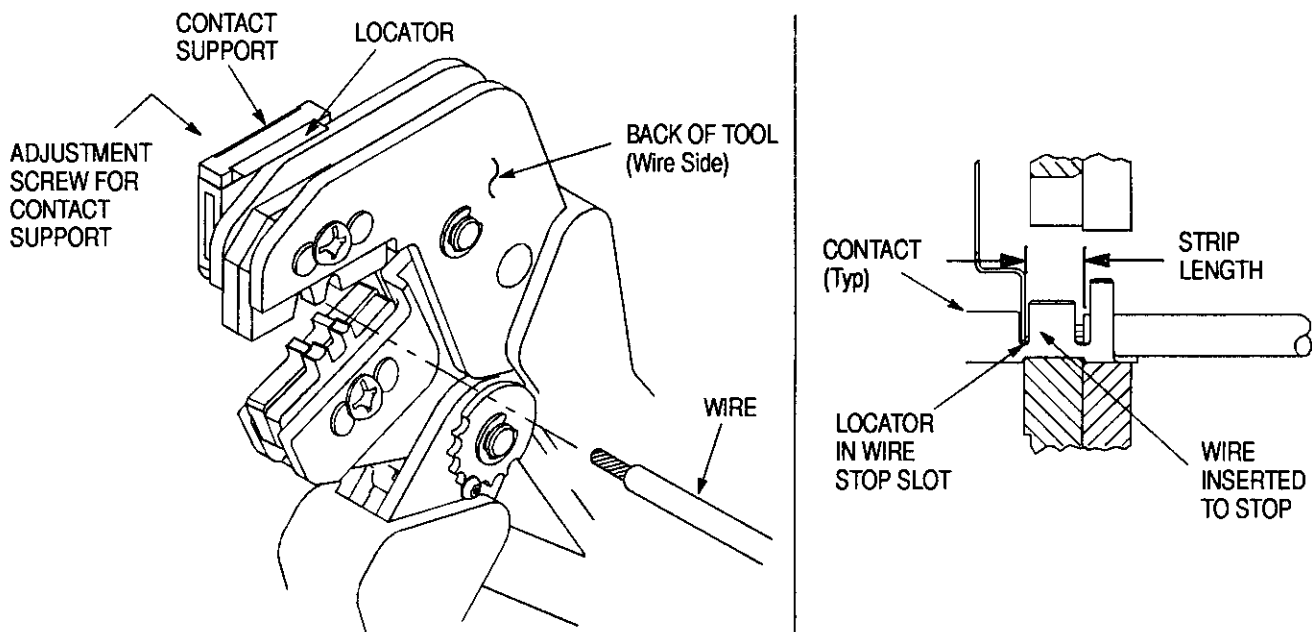

Figure 3
#### 4. CONTACT SUPPORT ADJUSTMENT (Figure 3)
Refer to the table in Figure 1 and select wire of the specified size and insulation diameter. Strip the wire to the length indicated in Figure 1, taking care not to nick or cut wire strands. Select an applicable contact and identify the appropriate crimp section according to the wire size markings on the tool. Refer to Figure 3 and proceed as follows:
3. Position the contact so that the mating end of the contact is on the locator side of the tool, and so that the open "U" of the wire and insulation barrels face the top of the tool. Place the contact up into the nest so that the movable locator drops into the slot in the contact. Refer to Figure 3. Butt the front end of the wire barrel against the movable locator.
5. Insert stripped wire into contact insulation and wire barrels until it is butted against the wire stop, as shown in Figure 3.
**NOTE** *The crimped contact may stick in the crimping area, but the contact can be easily removed by pushing downward on the top of the locator (see Figure 3).*